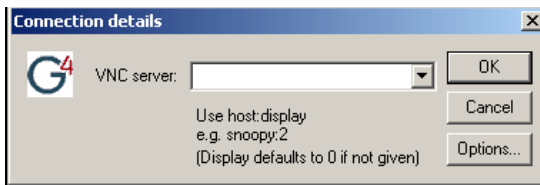

FIG. 87 Connection Details dialog
8. In the *Connection Details* dialog box (FIG. 87), enter the VNC Server IP Address.